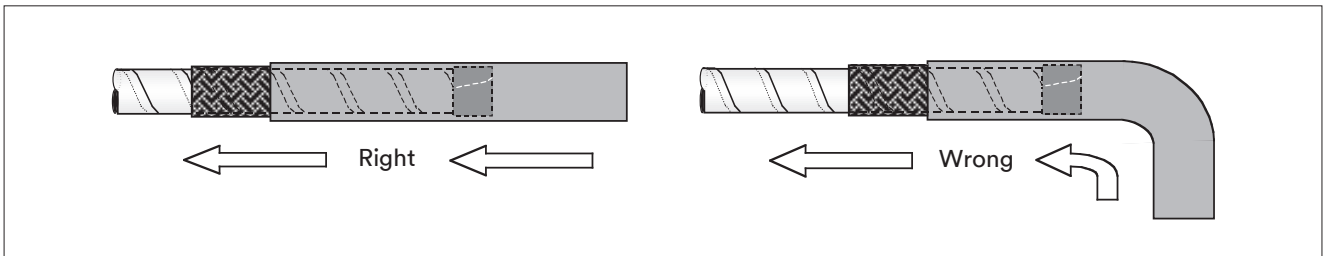

Figure 16
- 5.5 Guide one rejacketing sleeve assembly over each cable phase leg (Figure 16). Push sleeve assembly from above. Continuously guide the free end while maintaining sleeve-to-cable-core alignment.